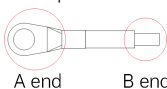

Fig. 1-2 Grounding terminal connection
(5) Grounding: MV810-ECAT01 must be grounded during wiring as shown in Fig. 1-2. You need to prepare and crimp the cable by yourself.